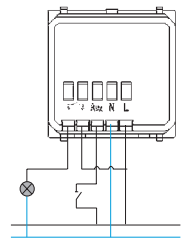

Figure 3: Basic wiring diagram
The electrical wiring of these devices is performed according to the wiring diagram shown in Figure 3. The terminal marked "L" shows the phase wire of the installation. The terminal marked "N" shows the neutral wire of the installation. The terminals marked "A" and "L" represent the two terminals of the relay output (voltage free).
1. Connect the device based on the wiring scheme. Figures 3, 4 and 5.